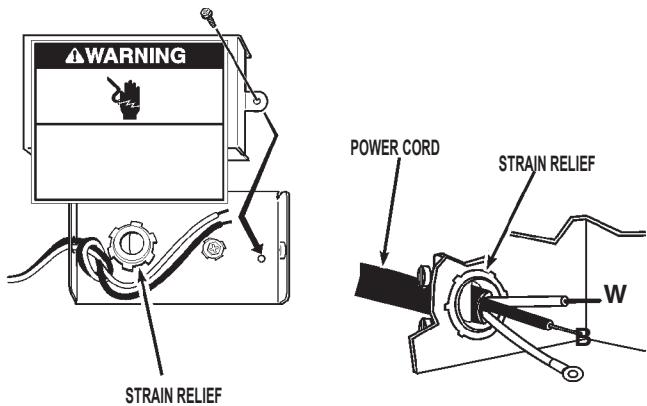

FIGURE 2
- Install metal strain relief in hole in the back of terminal box. See figure 2.